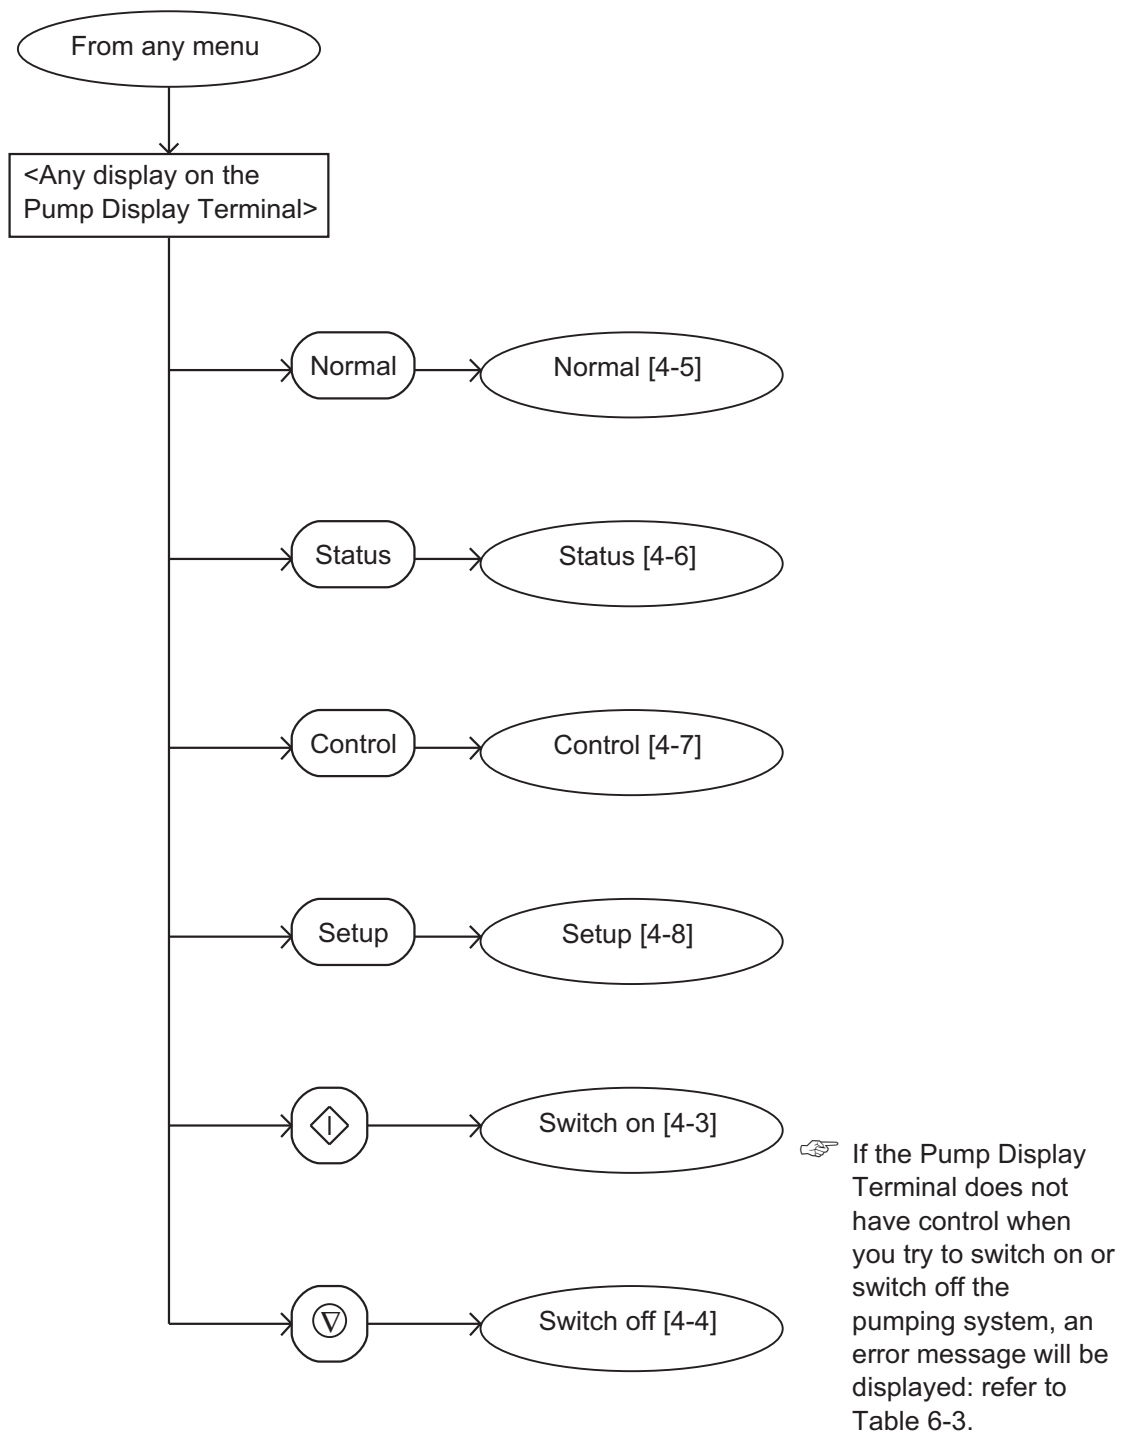

Figure 4-2 - Menu logic
The menus used and the display messages shown on the Pump Display Terminal are described in the menu diagrams in Figures 4-2 to 4-19. The following symbols and conventions are used in the menu diagrams:
When you first switch on the iH system, the normal display is shown: see Figure 4-5. Refer to Figure 4-1. You can then press the On or Off button (1 or 10) or any of the four menu buttons (7) to enter the corresponding menu. Then, regardless of the current menu and display status, when you press any of these buttons, you exit the current menu and enter the corresponding new menu. Figure 4-2 shows this menu control logic.
In the menu diagrams in Figures 4-2 to 4-19, text shown without chevron brackets in the two-line display symbol is the actual text that will be shown on the display. In this text, the 'Δ' symbol is used to show where a digit will be shown; the value of the digit depends on the sensor data or information you enter into the Pump Display Terminal.